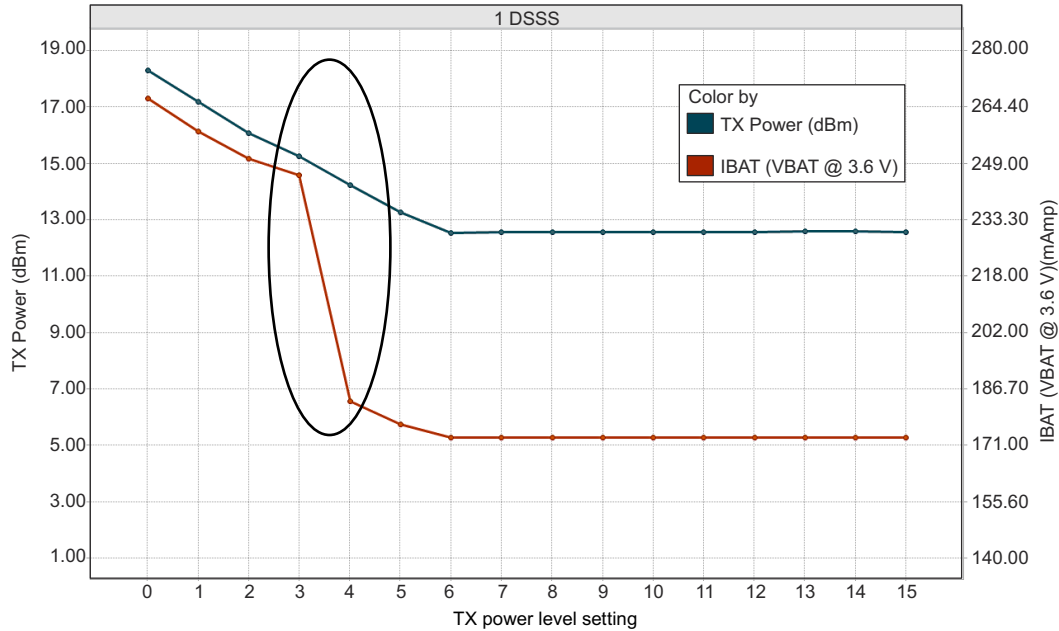
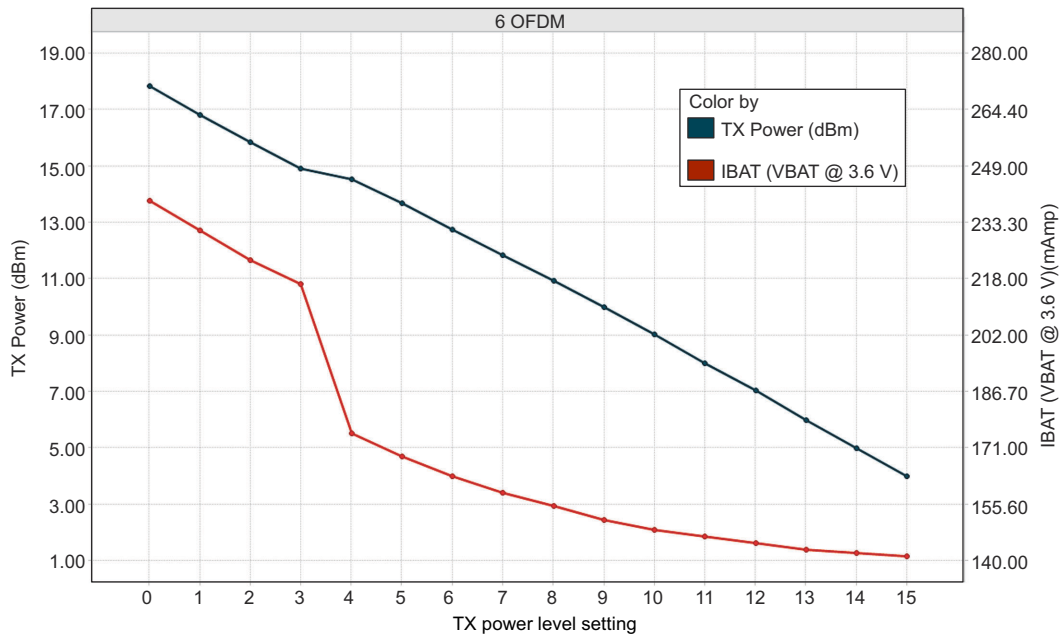
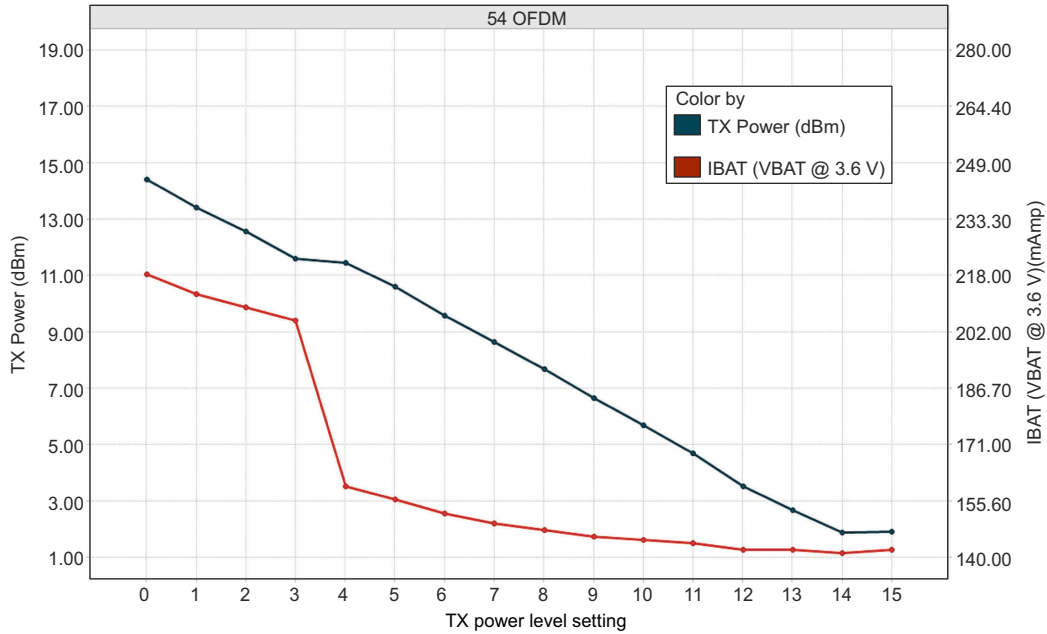

Figure 7-1. TX Power and IBAT vs TX Power Level Settings (1 DSSS)
Figure 7-2. TX Power and IBAT vs TX Power Level Settings (6 OFDM)
Figure 7-3. TX Power and IBAT vs TX Power Level Settings (54 OFDM)
- (1) TX power level = 0 implies maximum power (see 図 7-1, 図 7-2, and 図 7-3). TX power level = 4 implies output power backed off approximately 4 dB.
- (2) The CC3235x system is a constant power-source system. The active current numbers scale based on the V_{BAT} voltage supplied.
- (3) Typical numbers assume a VSWR of 1.5:1.
- (4) DTIM = 1
- (5) LPDS current does not include the external serial flash. The LPDS number of reported is with retention of 256KB of MCU SRAM. The CC3235x device can be configured to retain 0KB, 64KB, 128KB, 192KB, or 256KB of SRAM in LPDS. Each 64-KB block of MCU retained SRAM increases LPDS current by 4 µA.
- (6) The complete calibration can take up to 17 mJ of energy from the battery over a period of 24 ms. Calibration is performed sparingly, typically when coming out of HIBERNATE and only if temperature has changed by more than 20°C. The calibration event can be controlled by a configuration file in the serial flash.
In Figure 7-1, the area enclosed in the circle represents a significant reduction in current during transition from TX power level 3 to level 4. In the case of lower range requirements (14-dBm output power), TI recommends using TX power level 4 to reduce the current.